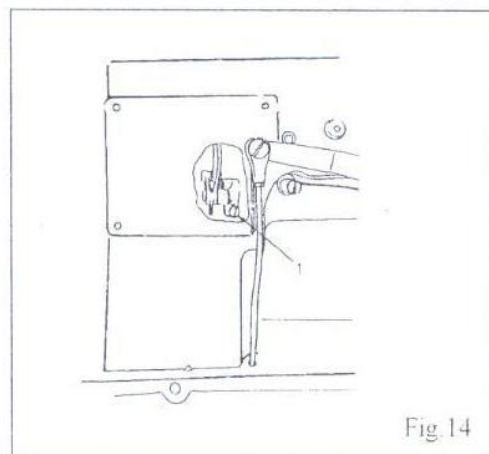

Fig. 14
- 1) Remove the cover G (Fig.2) and loosen the screw 1 (Fig.14) slightly.